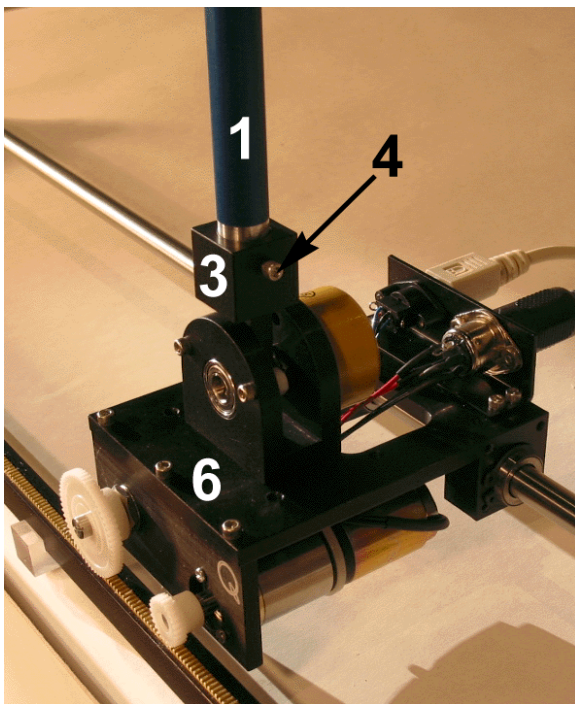

Figure 7 SIP Assembly on the IP01
The mounting of the single pendulum on both IP01 and IP02 is illustrated in Figures 7, and 8, respectively. The nomenclature of both system assemblies can be found in Table 2, previously reviewed, and Table 5, below, which complements the listing.
- i. An IP01 cart on top of which the medium pendulum (of 12 inches) is mounted, pointing upwards. This configuration is illustrated in Figure 7.